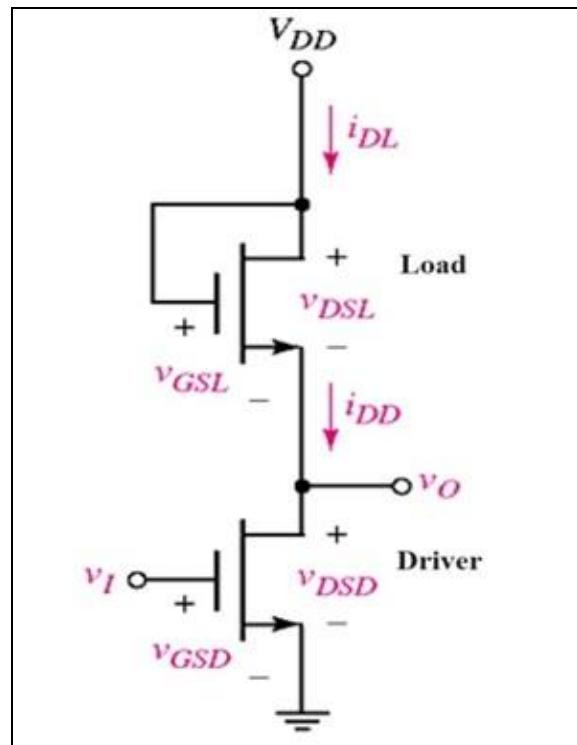

Figure 1: NMOS Inverter with Enhancement load
NMOS inverter using enhancement type NMOS transistor as load is shown in Figure 1. The NMOS load transistor is operated in saturation region. Its gate and drain are shorted together and connected to a supply voltage  $V_{DD}$ . When the input to the inverter is at logic low, the driver NMOS transistor is turned off and the output is at logic high through the load transistor. Conversely, when the input is at logic high, the driver NMOS transistor is turned on connecting the output to ground through the driver transistor.
1. For implementing NMOS inverter with Enhancement load MOS connect the circuit on breadboard according to the given Figure 1 and note down the observed values in Table 1. Provide +5V to the circuit.